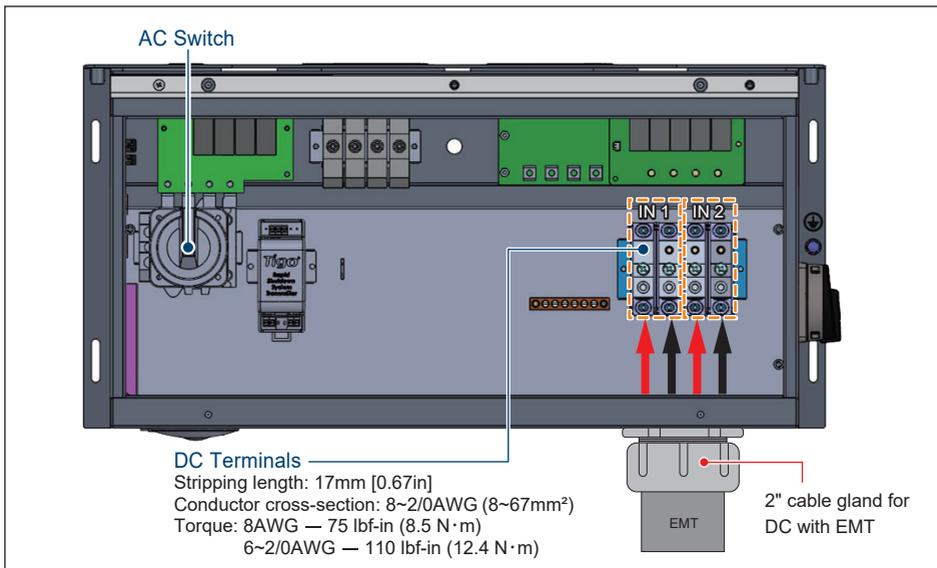

Figure 3-20: Location for DC terminals for 121 models
- For the 121 model, two mounting options for installing the DC connection are available, bottom or side entry; both options have a 2" chassis access hole (KO). Side entry is shown in **Figure 3-20**.